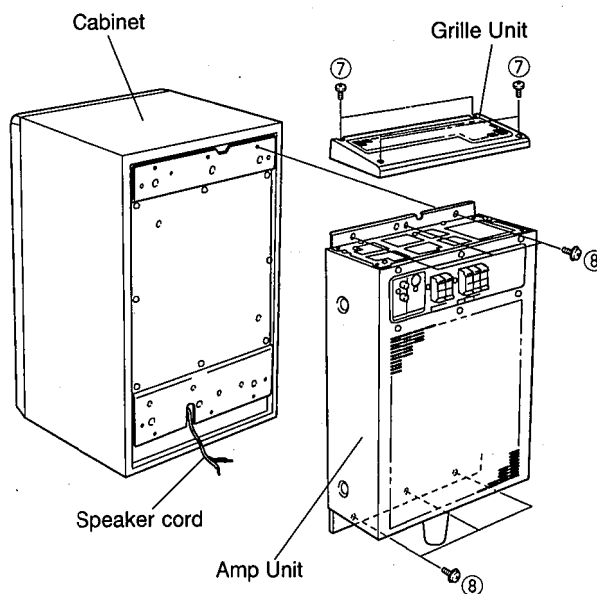

Fig. 6
- a. Remove the speaker cord in Fig. 6.
- b. Remove 4 screws (7) and then remove the Grille Unit in Fig. 6.
- c. Remove 6 screws (8) and then remove the Amp Unit in Fig. 6.